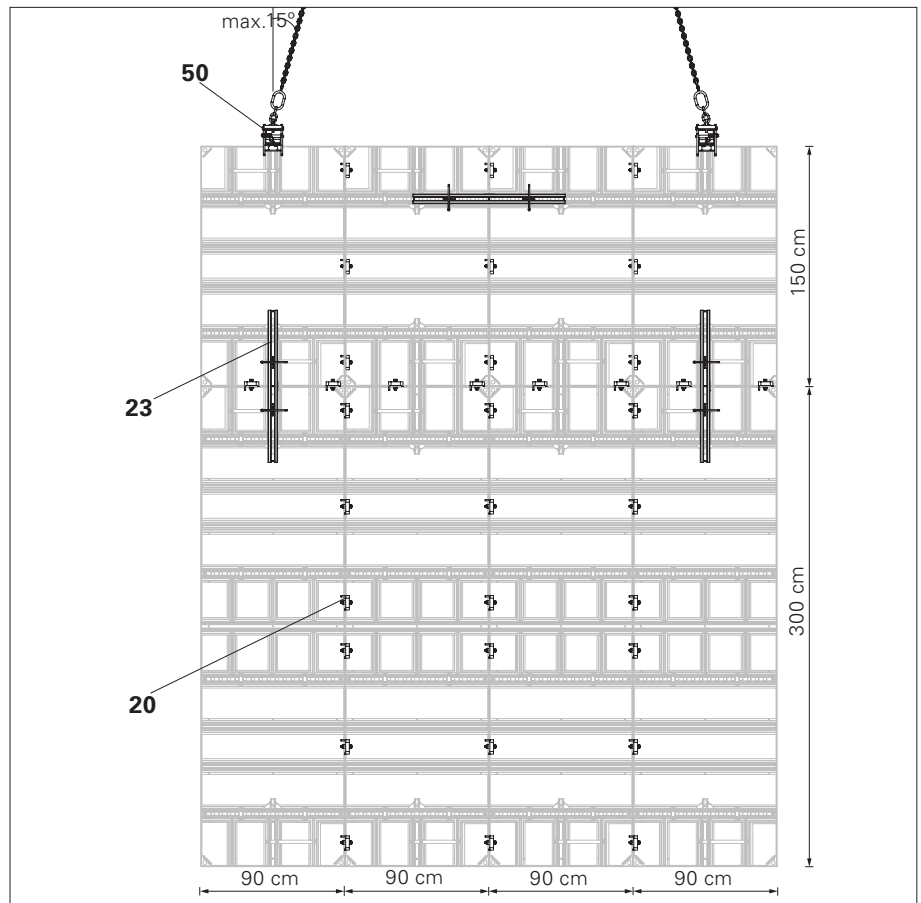

Fig. C6.03
Shown Height = 450 cm (Fig. C6.03)
Connect panels by means of Wedge Clip HSA (20) and Compensation Waler HSA 95 (23). (Fig. C6.03)